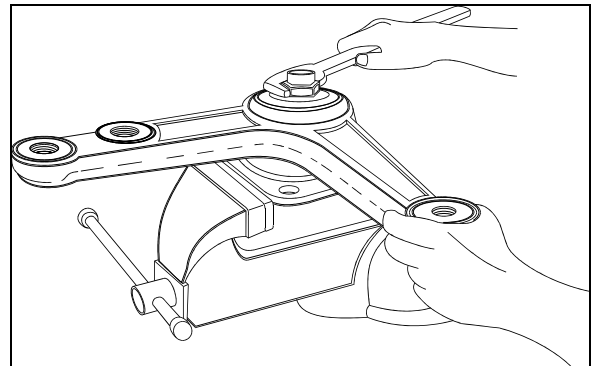

FIGURE 8: BELL CRANK
5. Firmly tighten nut (Fig. 8).